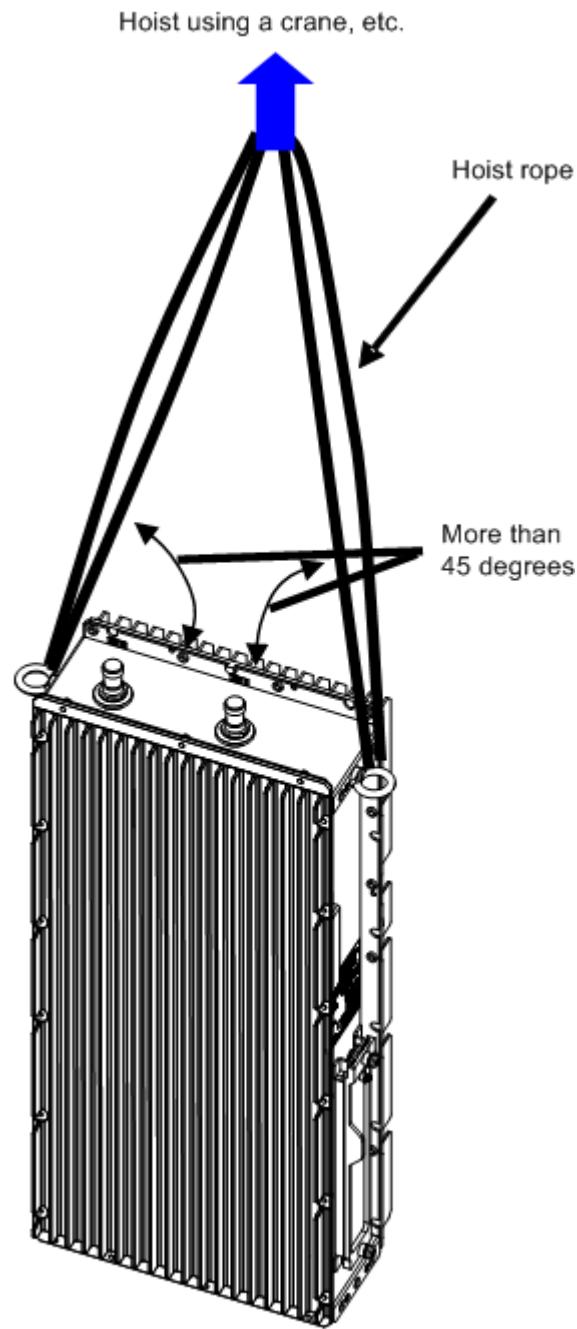

Figure 12 Hoist up/down Image
- 2 Hoist the equipment using a crane, etc. up to a higher place or down to a lower place by placing ropes in the eye-bolts as shown in Figure 12.